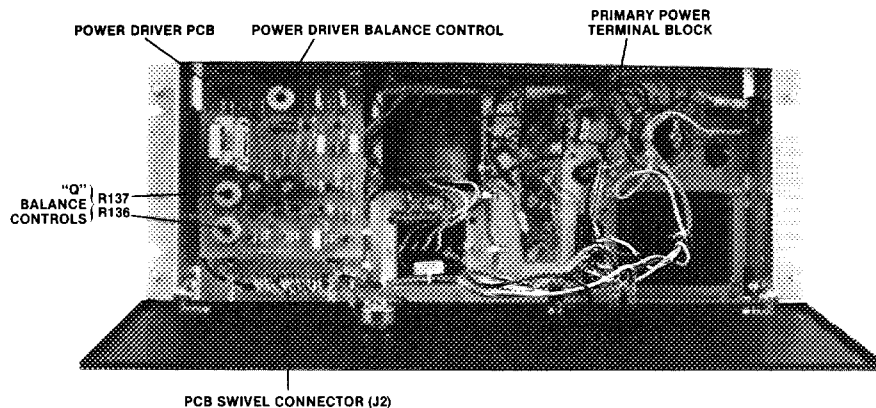

Figure 2. Front View with Hinged Panel Open
6. Adjust R116 on Power Driver PCB (see Figures 2 and 6) until minimum distortion is observed on distortion measuring instrument.
Output "Q" Balance Controls R136 and R137 on Power Driver PCB (see Figure 2) balance the bias current of power transistors Q1, Q2, Q3 and Q4. Inadequate adjustment of these controls may result in distortion and excessive current drain from one or more transistors. If adjustment is indicated (such as replacement of one or
3. Turn Output "Q" Balance Controls R136 and R137 fully counterclockwise (see Figure 2).
1. Remove four screws securing front panel. Open and lower panel for access to PCB (see Figure 2).